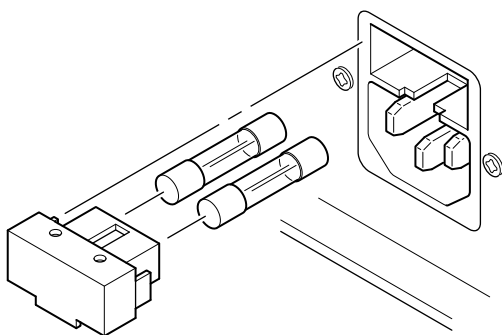

Figure 27 – Fuse Replacement
5. Install two new fuses into the fuse holder (*Figure 27*).